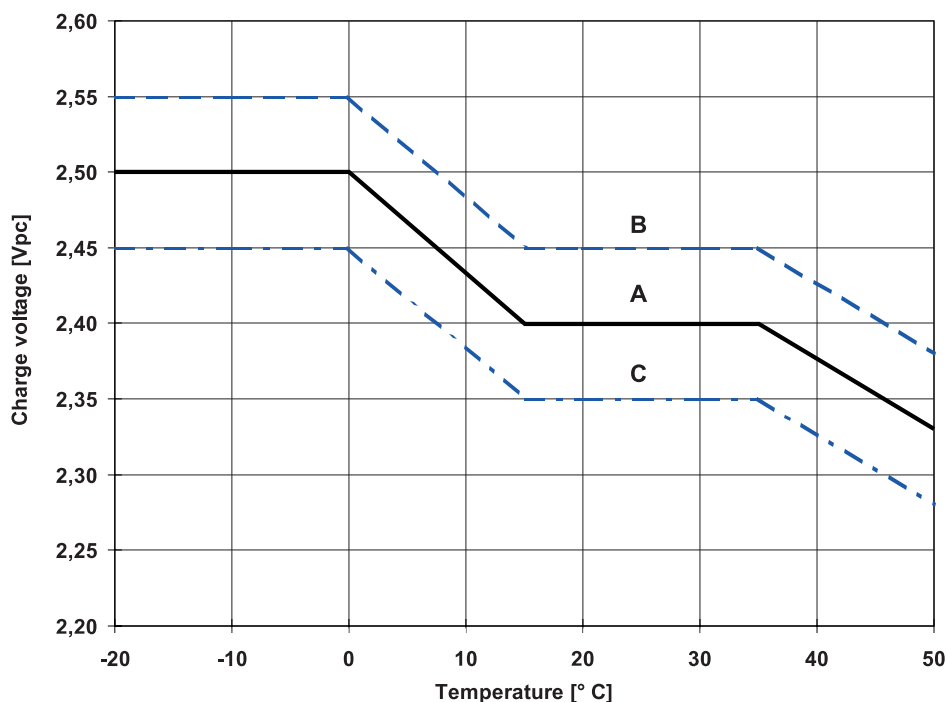

Fig. 1: Charge voltage vs. temperature for solar mode. Charge modes:
Recommended charge voltages for cyclical application: See fig. 1 and item 2.8.
I-phase = up to voltage acc. to fig.1 at 20° C
I-phase = up to voltage acc. to fig. 1 at 20° C
When recharging acc. to fig.1 the actual value of the alternating current is occasionally permitted to reach 10 A (RMS)/ 100 Ah nominal capacity. In a fully charged state during float charge the actual value of the alternating current must not exceed 5 A (RMS)/ 100 Ah nominal capacity.
The temperature related adjustment has to be carried out acc. to fig. 1. An adjustment of the charge voltage must not be applied within a temperature range 15° C to 35° C.